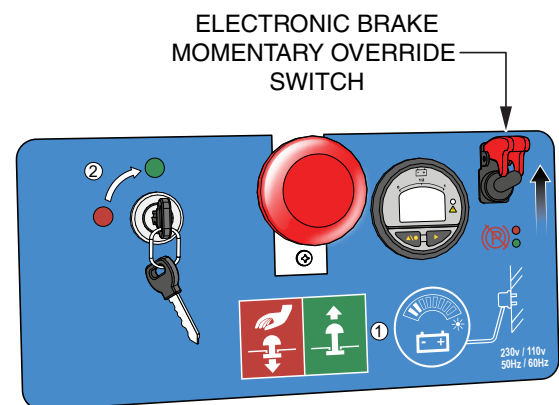

Figure 23. Brake Bypass Momentary Switch
1. Turn ignition key to the **ON** position (Figure 23).
2. **Push** upwards and **hold** the brake bypass momentary switch (Figure 23).